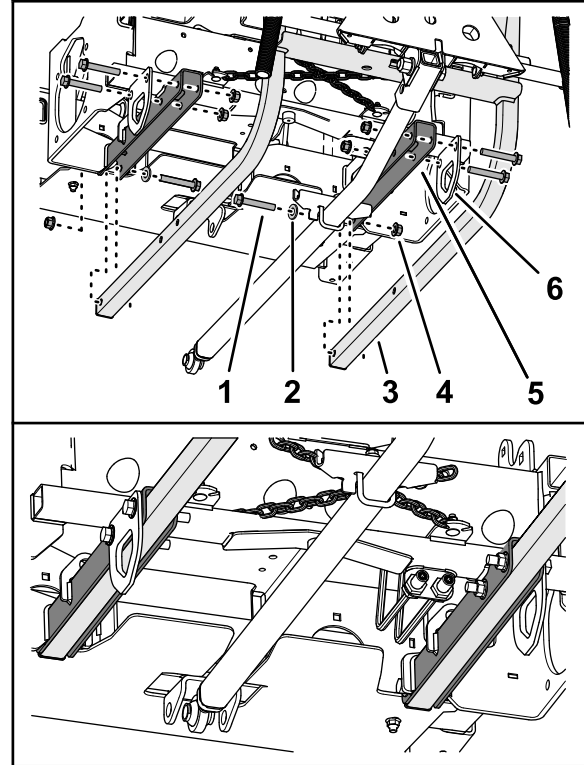

Figure 12
- Lift the back of the rear attachment lift frame to align the holes in the lift-frame tubes with the holes in the channels of the rear frame (Figure 12).
- Align the tie-down plates to the outside of the rear attachment lift frame and the thrust washers to the inside as shown in Figure 12.